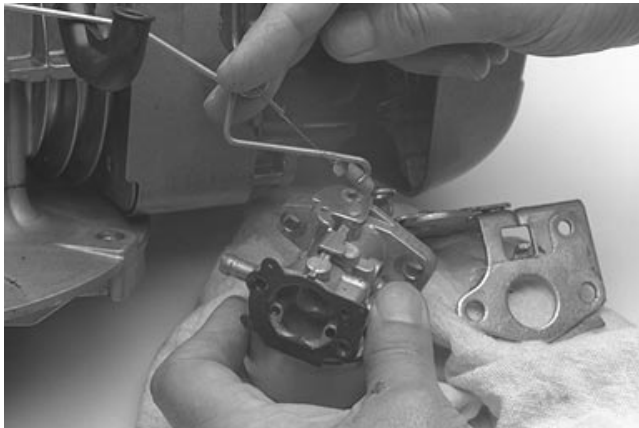

Fig. 30 – Install Carburetor
- Hook governor link into grommet on throttle lever from the top, Fig. 30.